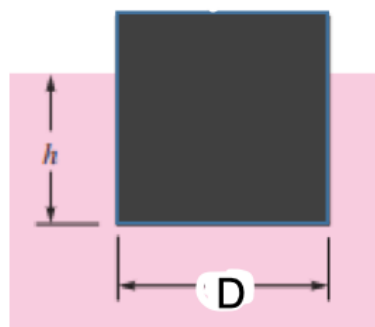

Figure Q2
b) Determine h and calculate if the wooden cylinder in oil as shown in Figure Q2 will float in the position shown.